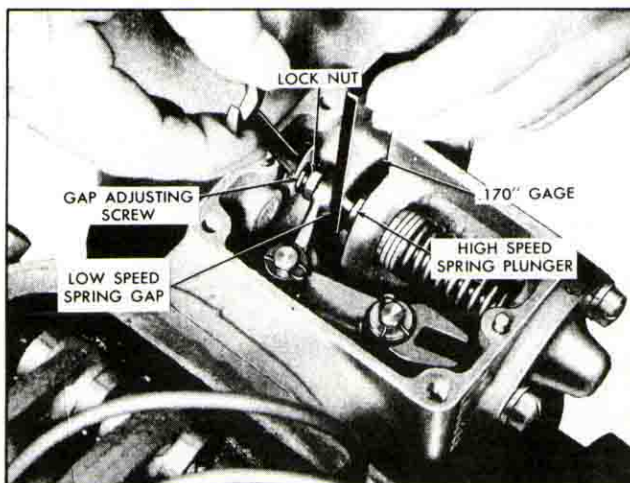

Fig. 9 - Adjusting Governor Gap
4. Check the gap between the low speed spring cap and high speed spring plunger with tool J 5407, as shown in Fig. 9.